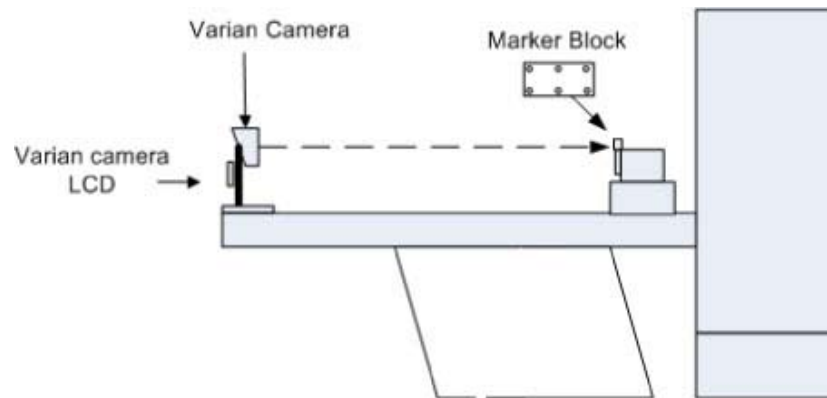

Figure 1-4 CAMERA AND PHANTOM SETUP
- 6.) Refer to Figure 1-4. Place the RPM Breathing Phantom on the table near the table head holder end of the gantry.
- 8.) Refer to Figure 1-4 and Figure 1-5. Adjust camera head and Breathing Phantom so the dots from the marker block appear in the camera's LCD display window.